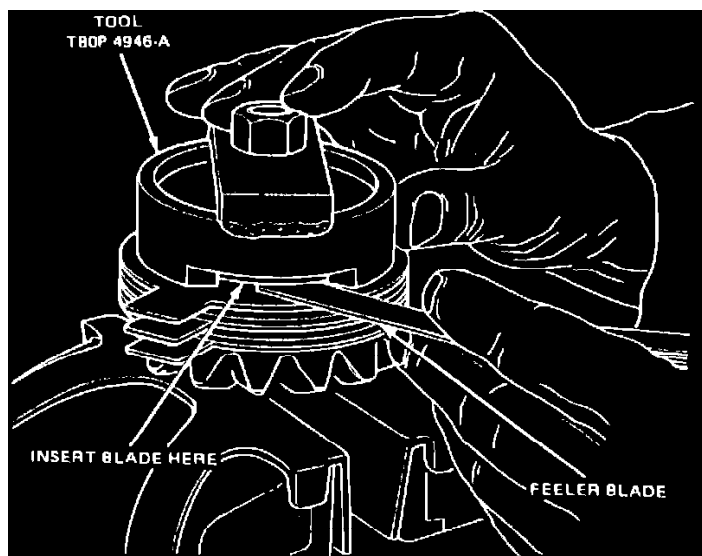
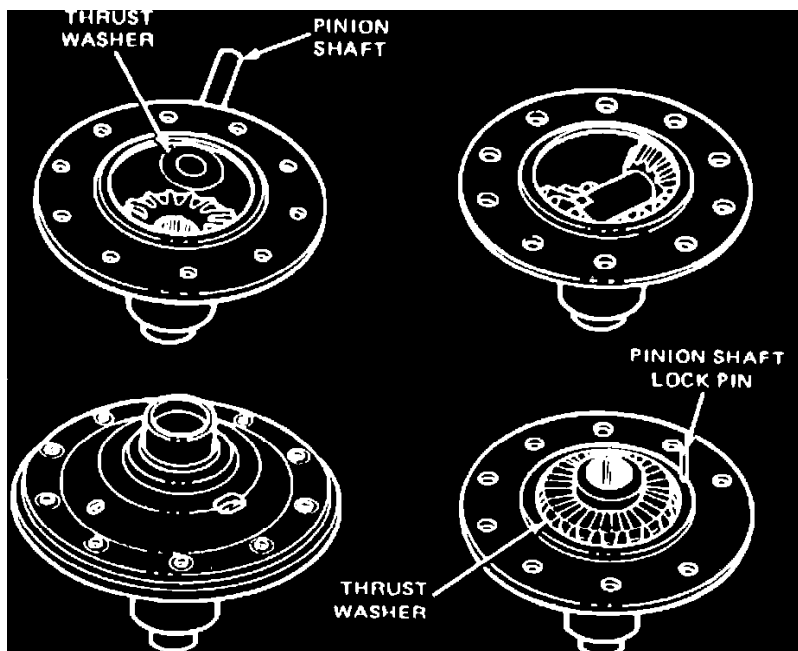

Fig. 11 Measuring shim thickness
Fig. 10 Assembling differential case
2. Place each clutch pack without shims into tool T80P-4946-A or equivalent, **Fig. 10**. Torque nut to 40 inch lbs. Using feeler gauge, determine thickness of new shims by inserting thickest blade possible between clutch pack and tool, **Fig. 11**.
1. Place side gear thrust washer and side gear in differential case bore, **Fig. 10. Liberally lubricate all differential components with suitable lubricant during assembly.**